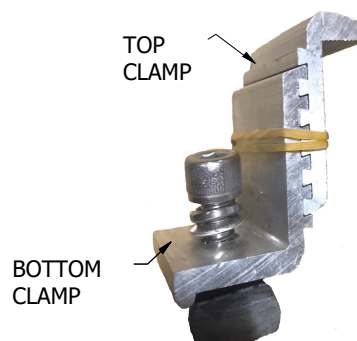

Figure 26C
- Self-bonding Strut Mid Clamp and Adjustable Strut End Clamp Assemblies are included with each order. **Note the Adjustable Strut End Clamps are not a bonding clamp nor are they required to be so by Intertek.** See Figure 26C below.